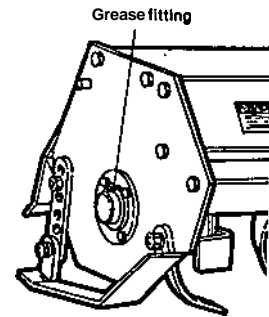

Fig. 9
- 10 Using a grease gun and a multi-purpose grease, ensure the tiller tine shaft and the driveline are lubricated Fig. 9